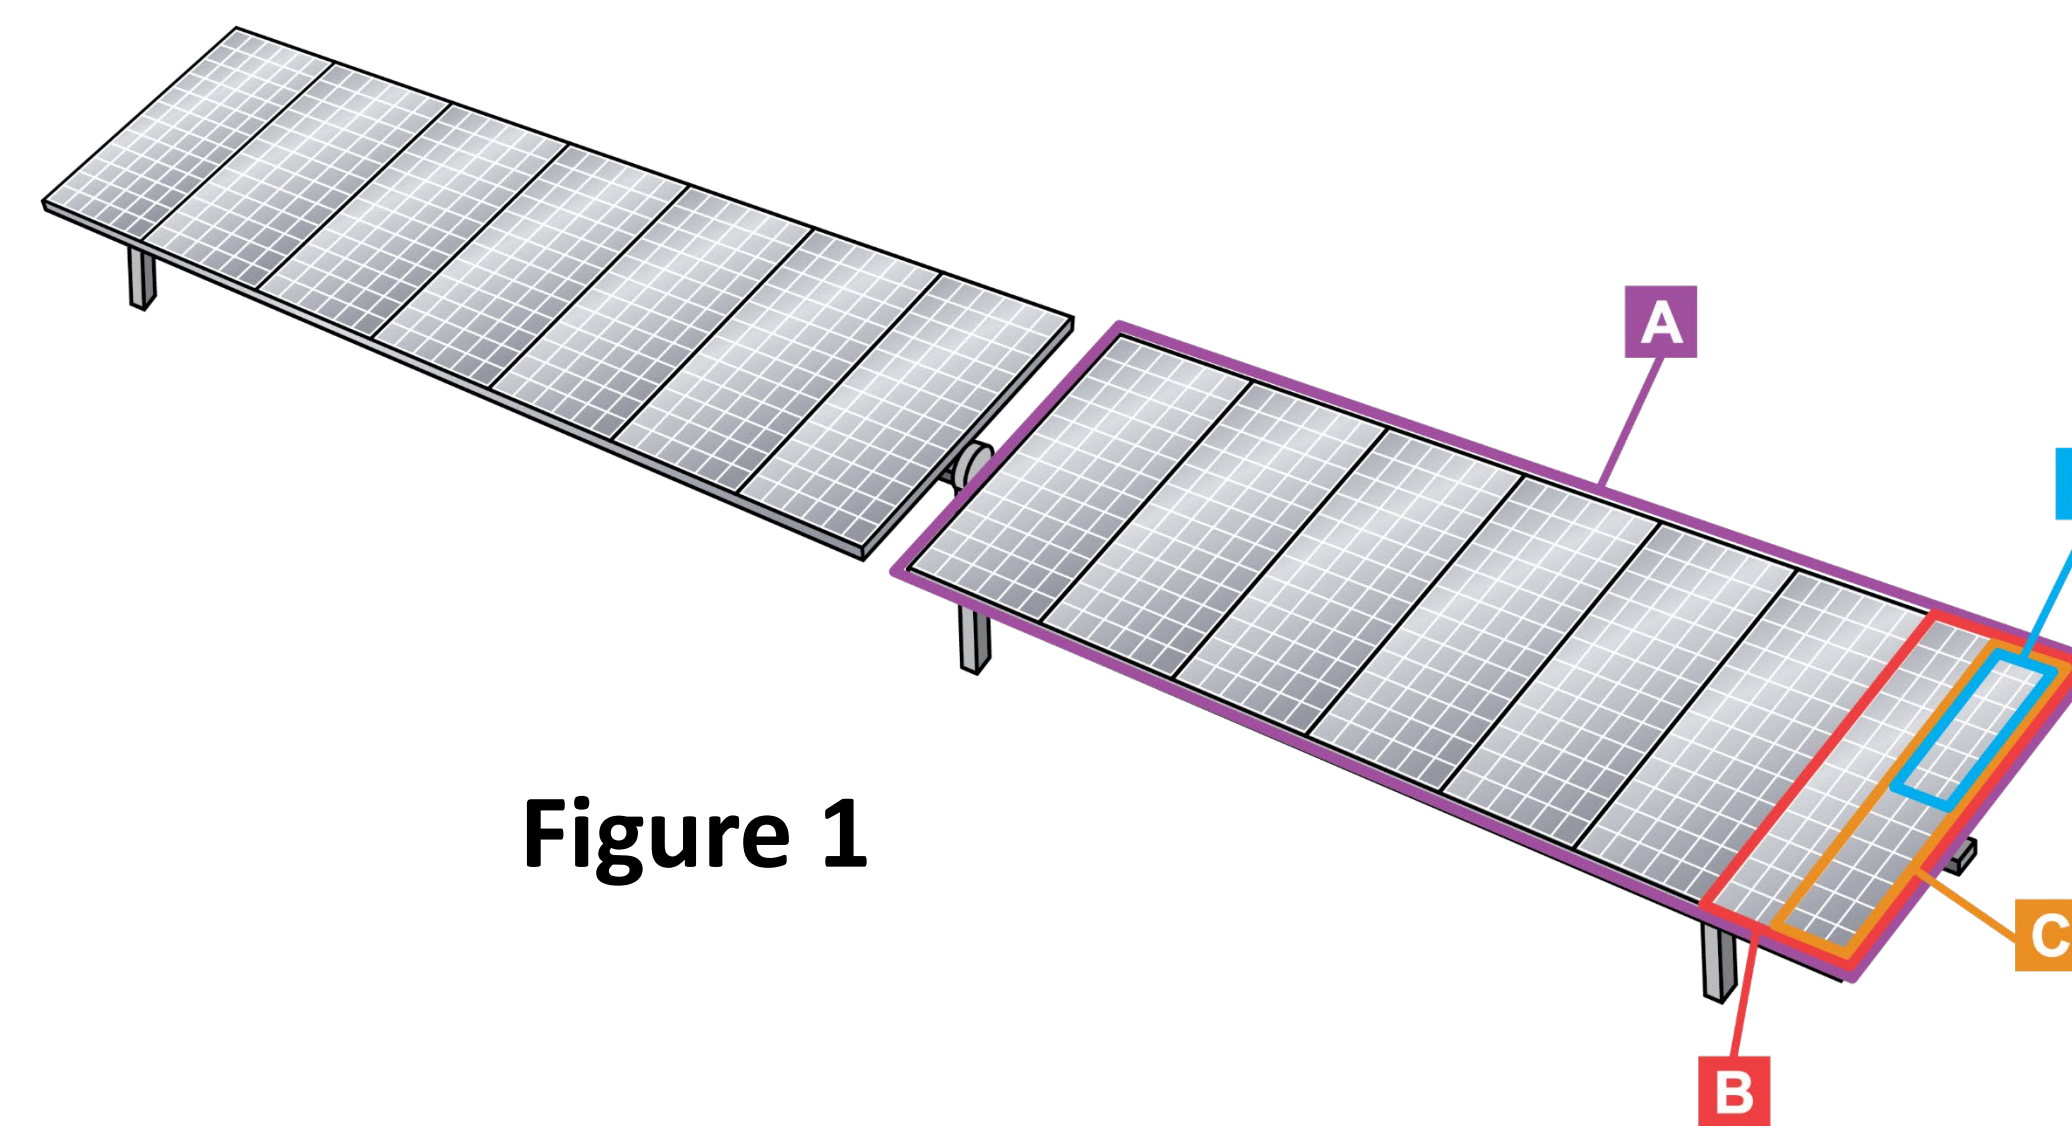

Figure 1
A SETO-funded research project being carried out through a joint venture of the Lawrence Berkeley National Lab and UC Berkeley has determined that vendors need to look at smaller effective wind areas than the spans between foundations (IE: Not “A” in Figure 1) when estimating individual module loading. PV modules can be broken if attributable areas as small as ¼ of the module are overloaded (individual fastener level loading – “D” in Figure 1) and this can be shown to occur at maximum project design conditions for many projects getting installed today. While the evaluation typically carried out is around a maximum design loading, the SETO-funded research team is currently exploring how a lower, uneven cyclical loading can lead to structural failures as well.
- Check that the module frame and attachments are designed to withstand the governing loading case (typically area “D” in Figure 1).